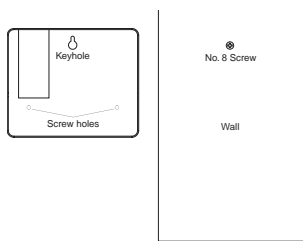

FIGURE 15: Mounting of an Indoor Timer
- Screw a No. 8 screw through each of the two holes at the bottom of the box into the wall [See Figure 15].